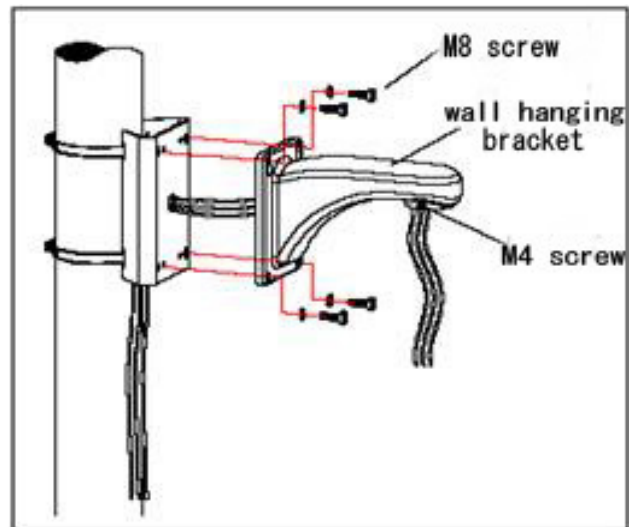

Fig 10
b. As shown in fig 10, fix the wall hanging bracket with all cables through it on the pole mounted attachment.